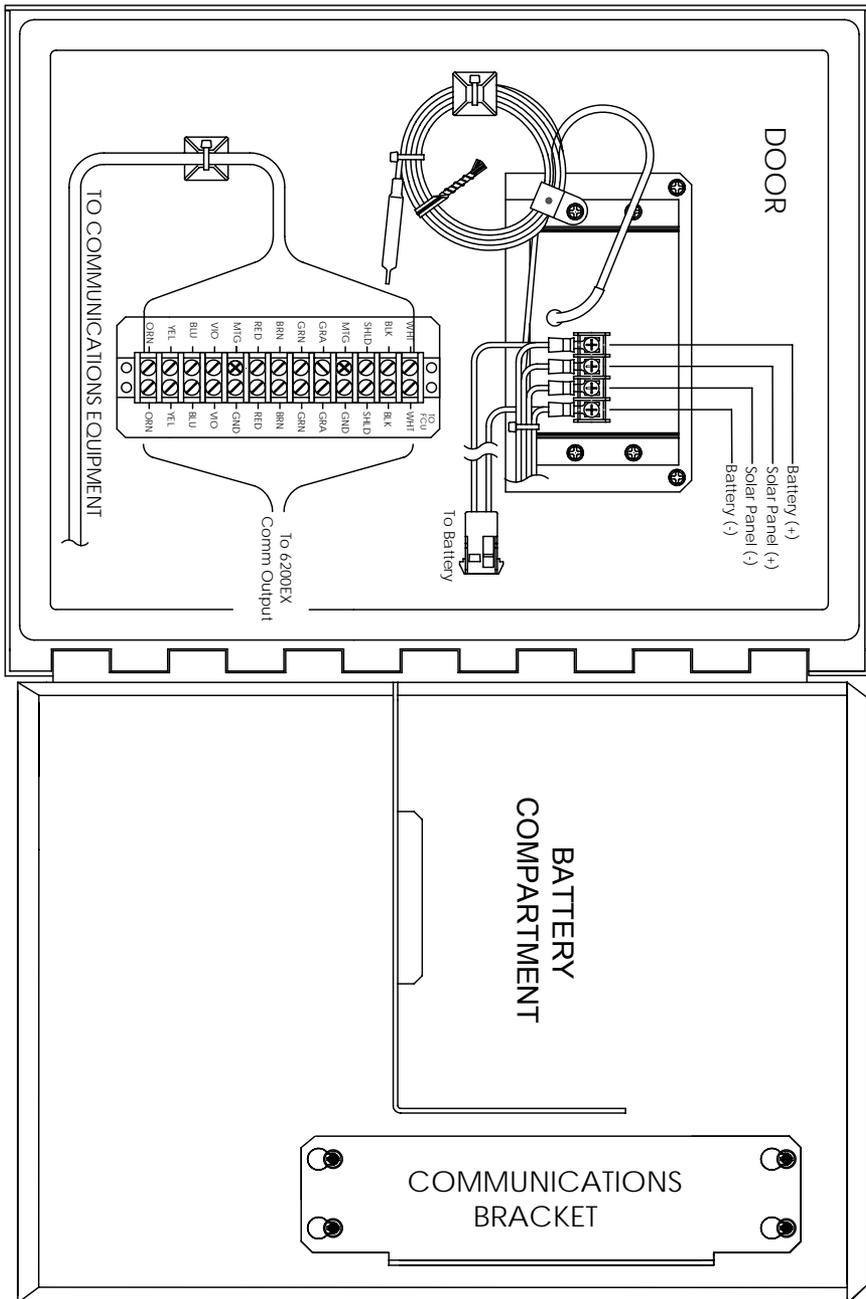

Figure 10 (Model 6270 Optional Equipment Unit)
8. The Solar Panel power cable connects to the Array Input terminals (See Fig. 10). Remove one of the hole plugs from the OEU and install cord connector. Remove nut, sealing ring and rubber grommet from cord connector. Slide nut, sealing ring and grommet over cable and insert cable through body of cord connector. Allow enough power cable to extend into the unit for connection to Array Input +/- terminals.